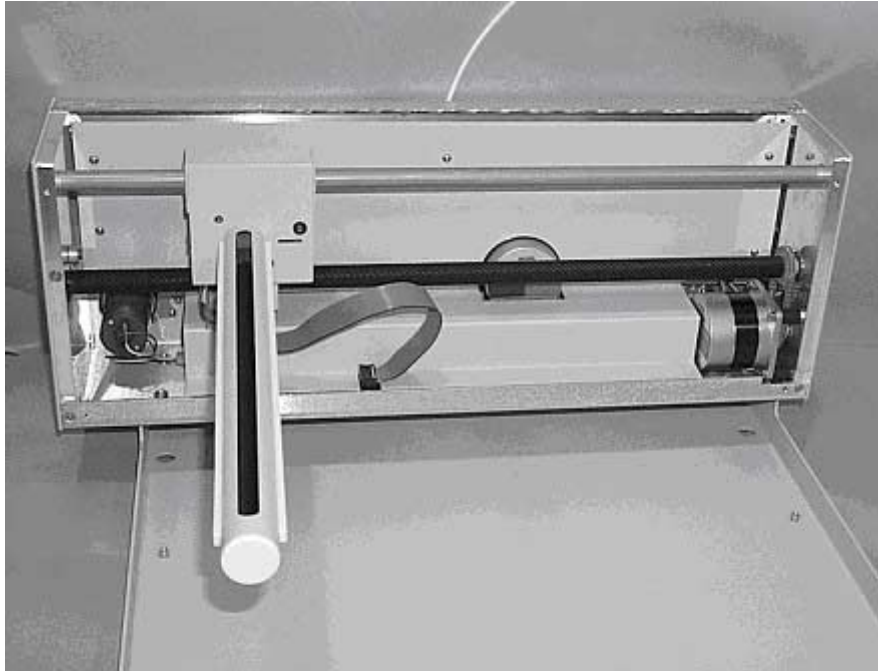

**Figure 1-7.** Front view of ASX-510 Auto Sampler showing front cover screws.
5. Next, the front cover needs to be removed. Remove the four corner screws shown in Figure 1-7.